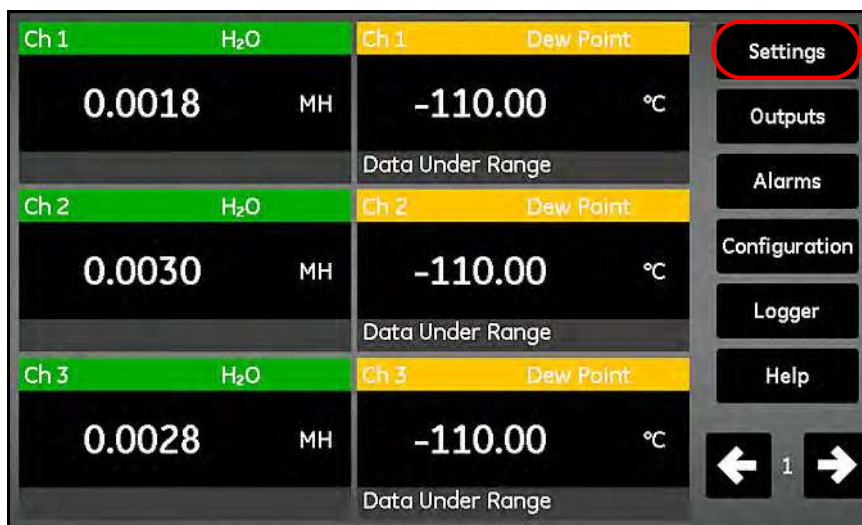

Figure 82: Settings Button on the Main Screen
3. From the main screen, tap the **Settings** button (see *Figure 82* below).